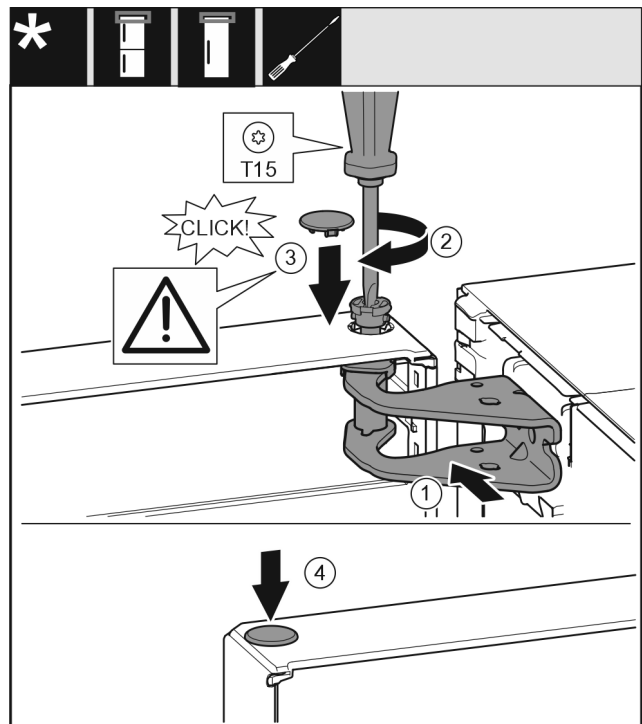

Fig. 26
- ▶ Align the top door with the opening in the swap bearing block Fig. 26 (1).
- ▶ Insert the bolt Fig. 26 (2) and use screwdriver to tighten it.
- ▶ Insert the cover Fig. 26 (3).
- ▶ Check that the cover Fig. 26 (3) is resting on the door.
- ▶ Insert the cover Fig. 26 (4).